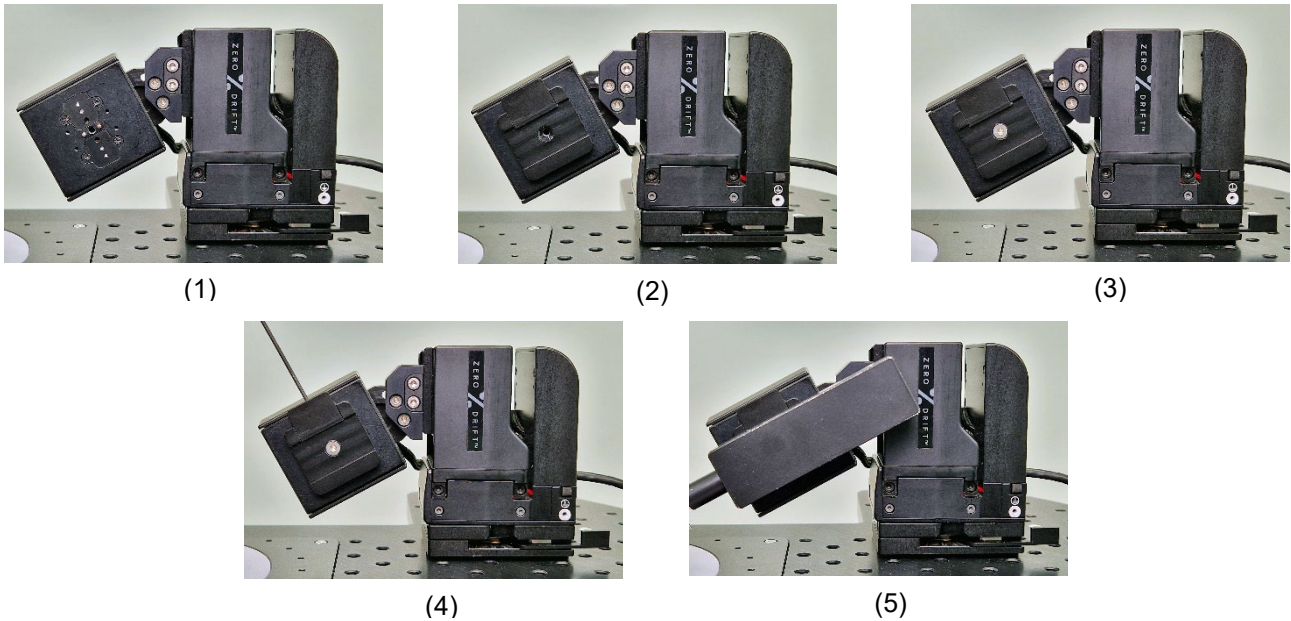

Figure 7. Step-by-step instructions for mounting a head-stage with uMp-DVT
uMp-DVT enables mounting of most common patch clamp amplifier head-stages (Figure 7):
- a. Insert the provided dowel pins to the micromanipulator's x / D-axis: Figure 7 (1). These pins will ensure that the uMp-DVT is aligned parallel with the axis movement direction.
- b. Attach uMp-DVT in place using the pins for guidance: Figure 7 (2).
- c. Secure uMp-DVT in place with the provided screw: Figure 7 (3).
4. Open the dove tail clamping piece screw from the uMp-DVT: Figure 7 (4).
5. Slide the head-stage to the dove tail fitting: Figure 7. (5).